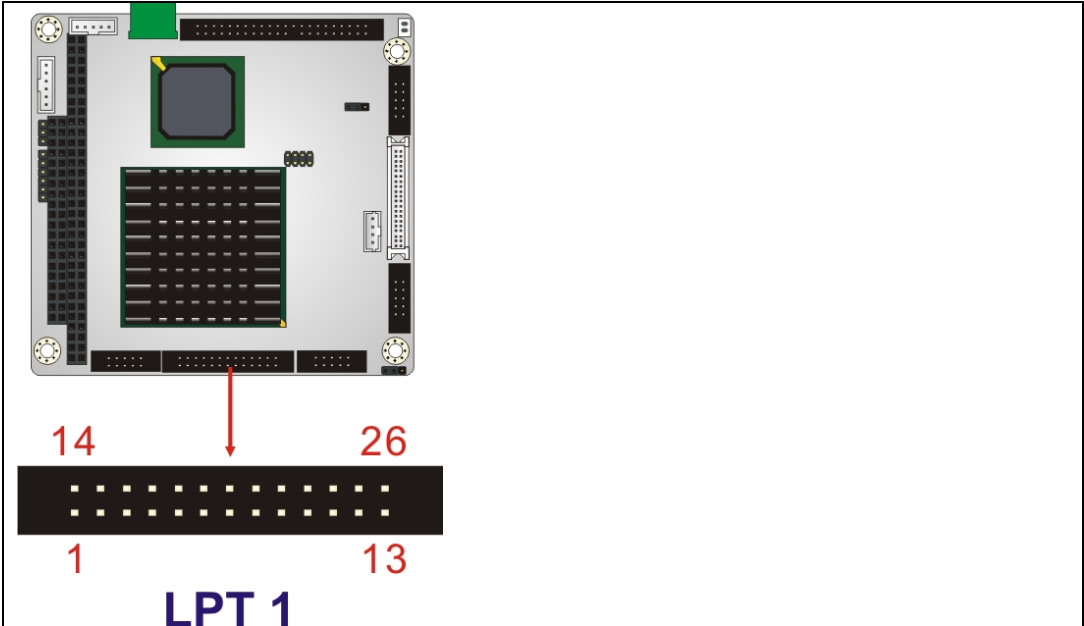

Figure 3-14: Parallel Port Connector Location
- CN Location:** See **Figure 3-14**